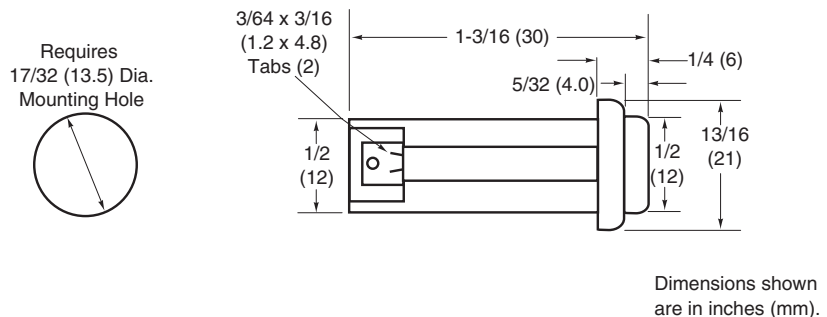

Figure-1 TS-8131 Mounting Dimensions.
1. Determine the sensor mounting location (Figure-1).